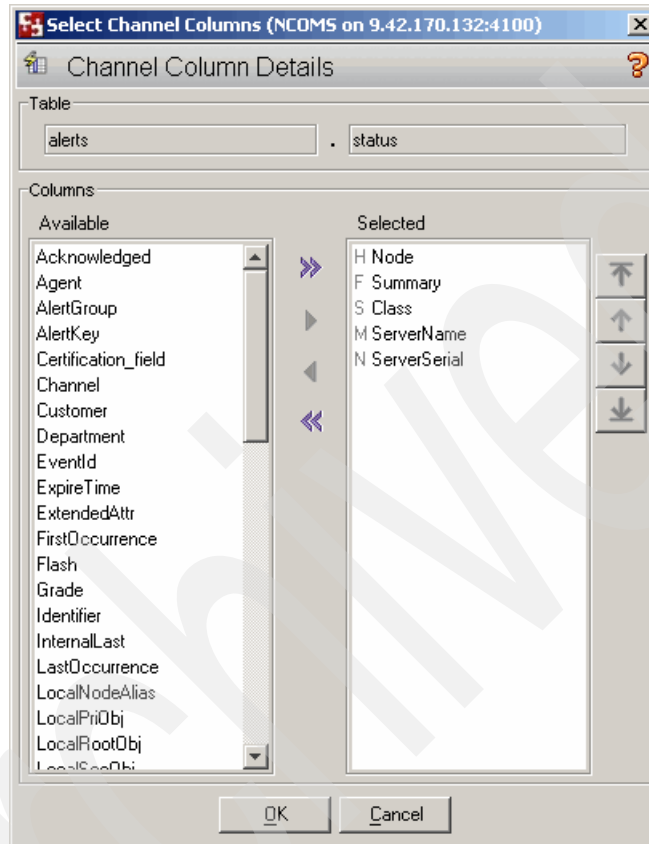

Figure 4-60 Channel column details
- d. On the Columns tab, select the  button to be able to define the ObjectServer Table and Fields to use for the notification, as shown in Figure 4-60. Click **OK**.